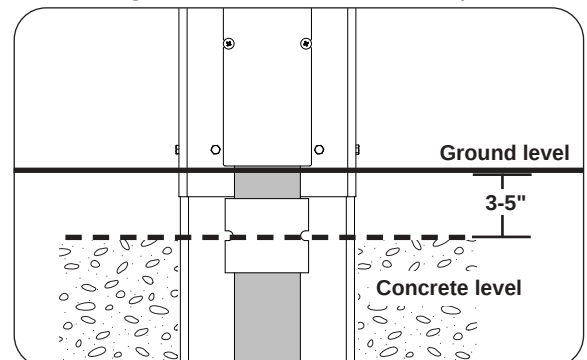

Fig. 27-4 In-ground post orientation
5. Pour the concrete mixture into the hole to approximately 3-5" below the ground level. See Fig. 27-4.